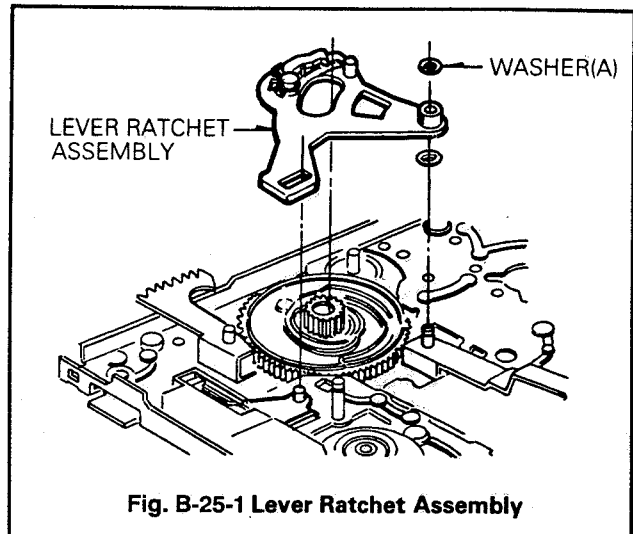

Fig. B-25-1 Lever Ratchet Assembly
- 1) Remove the washer(A) and remove the Ratchet Lever Assembly.(Fig. B-25-1).